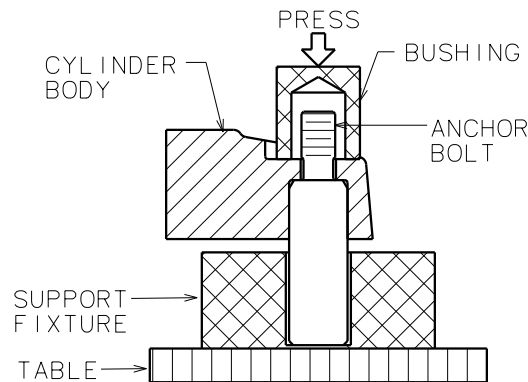

Figure 305 - Anchor Bolt Installation
- 1 Install anchor bolts using an arbor press and a holding fixture. Refer to Figure 305. Ensure that bolt is **perpendicular** to the cylinder and **parallel** to one another.